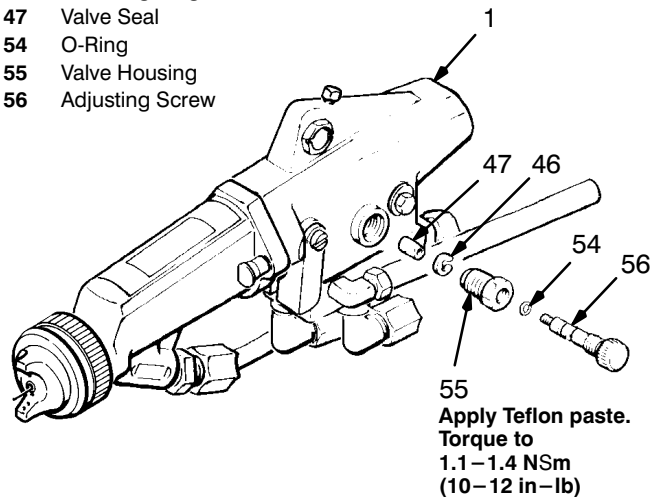

Fig 20
1. Place a wrench on the flats of the valve housing (55) and remove it from the gun body (1). See Fig 20.
2. Remove the retaining ring (46).
3. Rotate the air adjusting screw (56) *counterclockwise* until it is disengaged from the valve housing threads. Pull the adjusting screw out of the valve housing (55).
4. Clean all the parts and inspect them for wear or damage. If replacing the seal (47), unscrew it *clockwise* and remove it from the adjusting screw.
5. Apply medium grade thread sealant to the small threads on the end of the adjusting screw (56) and install a new seal (left hand thread).
6. When reassembling the fan air valve, lubricate the o-ring (54) and the adjusting screw threads with petroleum jelly.
7. After the retaining ring (46) is installed on the adjusting screw (56), back the adjusting screw out of the valve housing (55) until it bottoms out against the retaining ring.
8. Apply Teflon® paste to the threads of the valve housing (55) and install it in the gun body (1). Torque the housing to 1.1 – 1.4 N•m (10 – 12 in-lb).